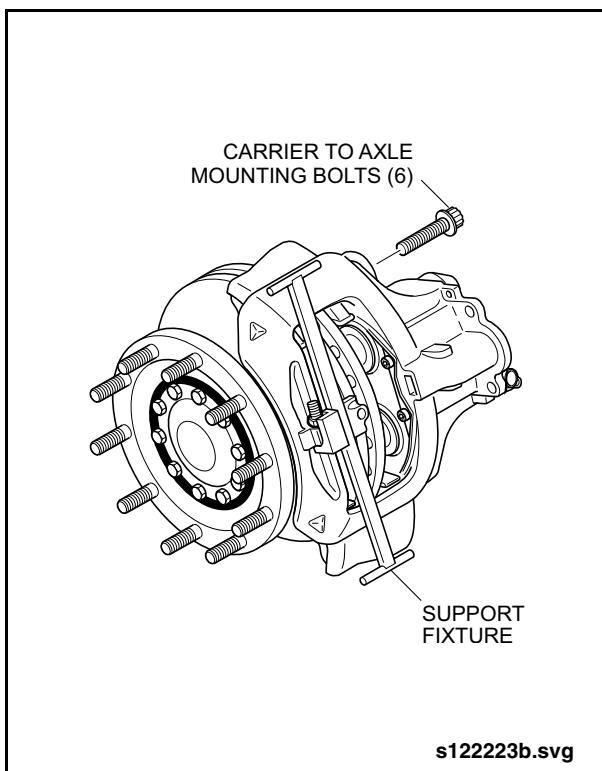

Fig. 2-123: Brake Caliper Removal
6. Install the caliper support fixture (Item 1 from special tools list). See "Fig. 2-123: Brake Caliper Removal" on page 110.